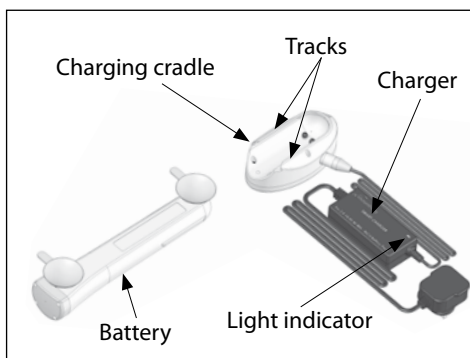
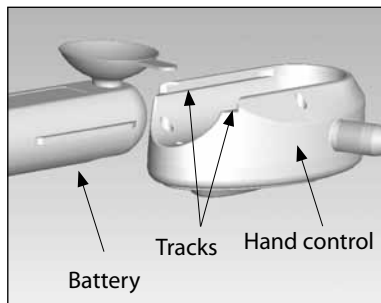

Figure 1
Figure 3
1. Charge the battery by sliding it into the tracks on the charging cradle (**fig 1**) and plugging it into the mains.
- Sliding the charged battery fully into the tracks on the hand control (**fig 3**);
- A bath lift, complete with two side flaps and hand control attached (**see fig 1**)
- iv) It is essential that the side flaps (**see fig 1**) do not catch under any obstructions such as integral bath/tub handles, handrails, soap dishes and taps/faucets when rising. If your bath/tub has integral handles and the side flaps are likely to catch, optional side flap protectors are available (see section 15, "Accessories"). These hook over integral bath/tub handles (**see fig 3**) and help guide the side flaps smoothly over the handles.